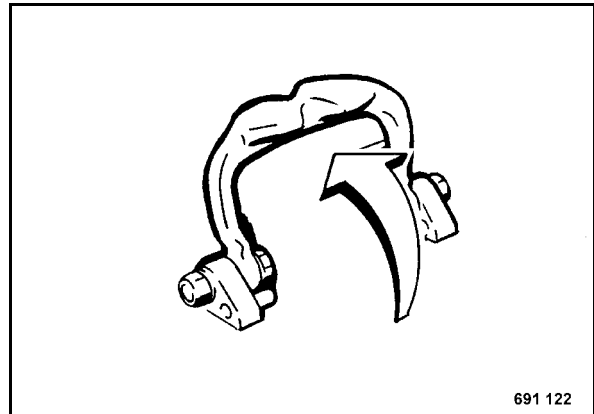

Fig. 40
- Fold the lifting hook (Fig. 40) up.